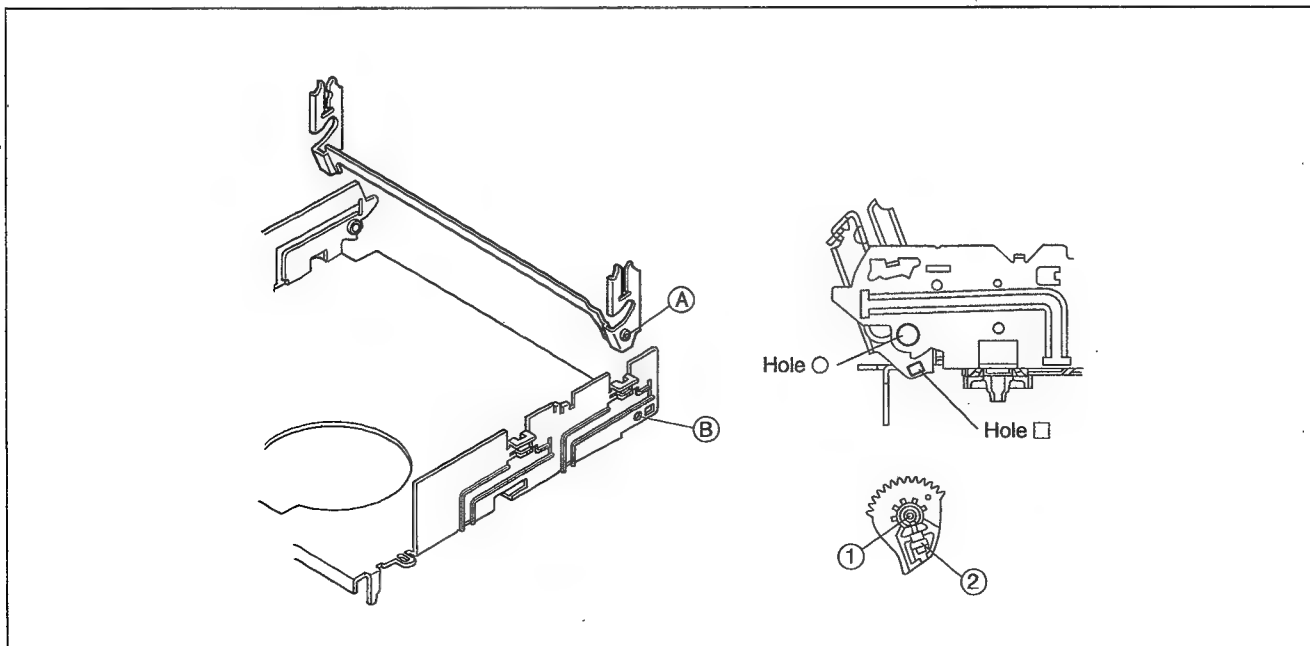

Fig. 2-2-31
- (1) Insert section A of the drive arm into section B of the main deck.
- (2) Insert section ① of drive gear into hole ○ of the drive arm and section ② into hole □. (See Fig. 2-2-31)